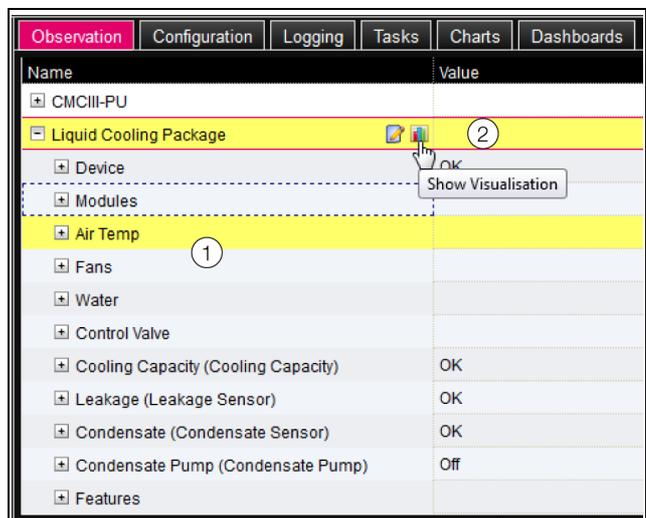

Fig. 117: Tree structure
If, after selecting the "Liquid Cooling Package" level, the subordinate entries "Device", "Air", "Water" etc. are displayed (fig. 117), you can switch to the graphical representation as follows:
- Press the coloured "Graphics" symbol after the "Liquid Cooling Package" entry in the form of a stylised diagram (fig. 117, item 2).
The display switches to the tree view (fig. 117) and the individual settings for the Liquid Cooling Package may be selected.